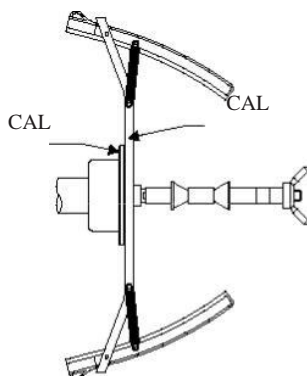

Fig. F4.1 Application of the motorbike flange onto the shaft. Align the writing "Cal" on the flange and on the flange for motorbikes
2. Apply the flange on the shaft for motorbike wheels as shown in Figure F4.1.